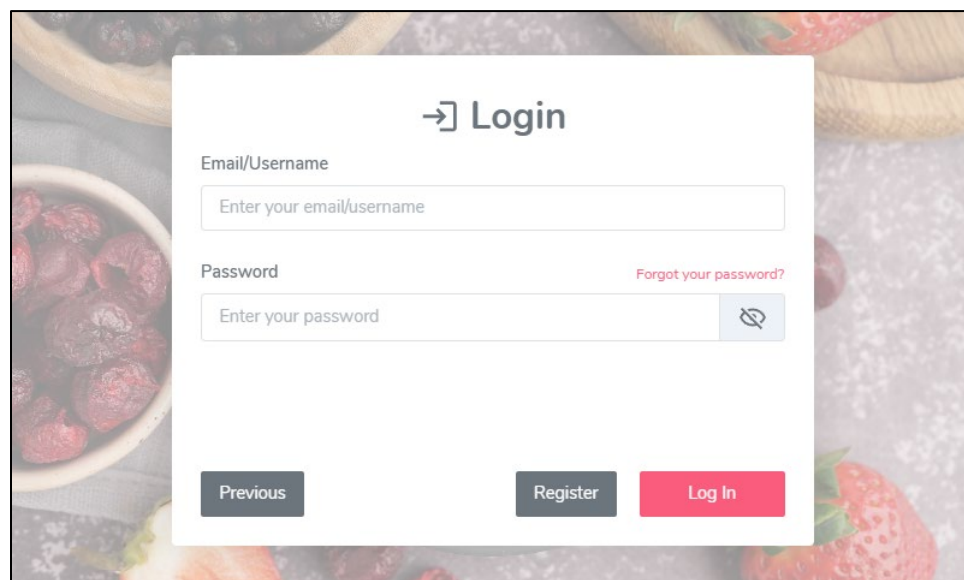

Figure 10
5. If you don't have an account, tap 'Register' and proceed to **step 6**. Otherwise, log in with an existing cloud account by entering the required credentials in the login form, then tap 'Log In' (Figure 10). Once logged in, proceed to **step 8**.